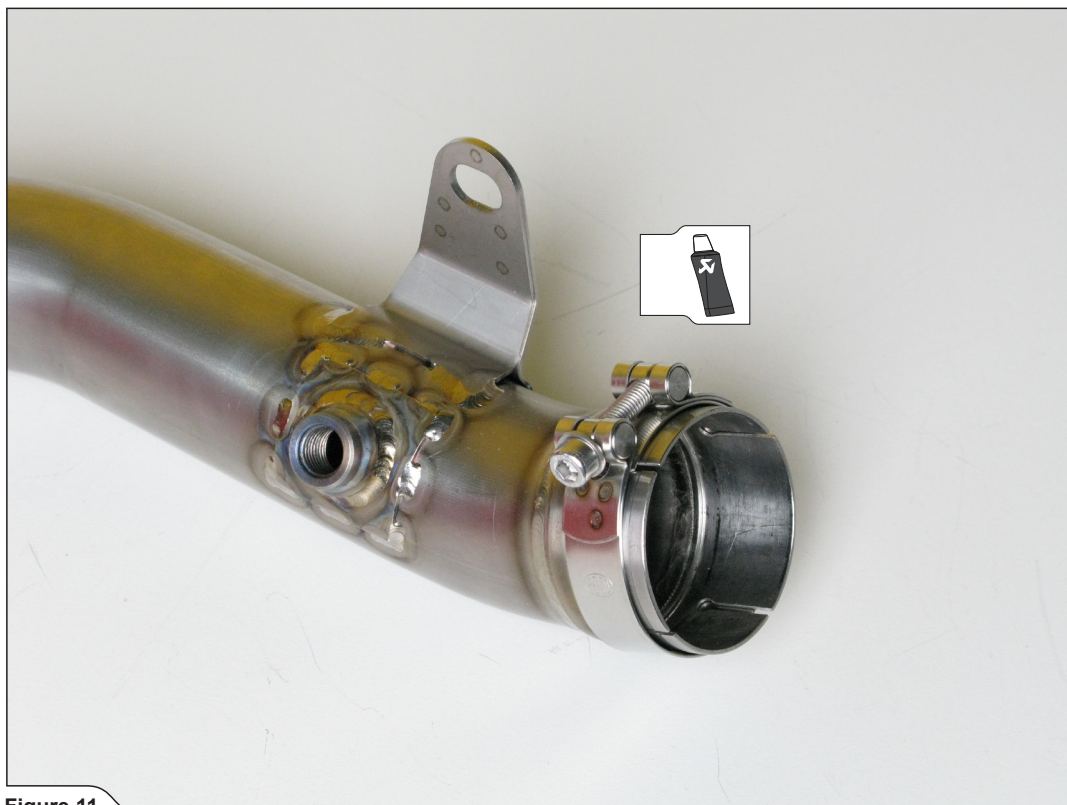

Figure 11
3. **For optional link pipe only:** install the metal clamp (R25) onto the optional link pipe inlet bush, as shown (Figure 11).